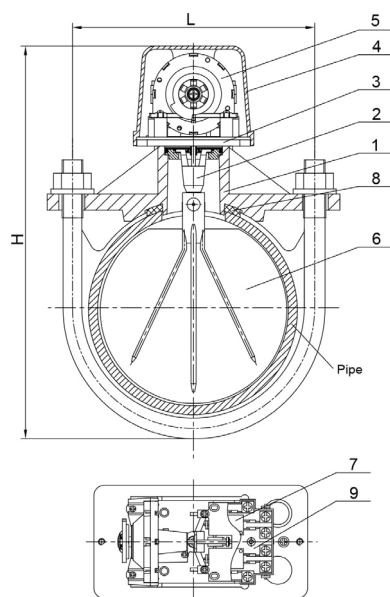

Figure 1 Outline Drawing
1. The main outline drawing is shown in Figure 1 Outline Drawing